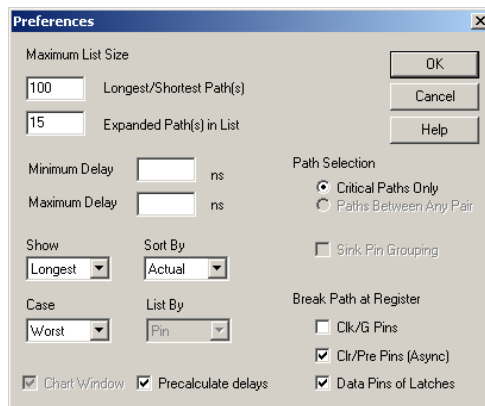

Figure 2-9. Timer Preferences Dialog Box
1. **In the File menu, click *Preferences*.** The Preferences Dialog Box appears, as shown in Figure 2-9.
- 1. In the File menu, click *Preferences*.** The Preferences Dialog Box appears, as shown in Figure 2-9 on page 36.
1. **In the File menu, click *Preferences*.** This displays the Preferences dialog box (see Figure 2-9 on page 36).
1. **In the File menu, click *Preferences*.** The Preferences Dialog Box appears, as shown in Figure 2-9 on page 36.
Normally, Timer displays only critical paths. Critical paths are the longest path between any of the starting points (terminals) and each ending terminal. If you would like to see the timing of all paths between any of the starting terminals and any of the ending terminals, select Paths Between Any Pair in the Path Selection area of the Preferences dialog box, Figure 2-9 on page 36. Selecting Critical Paths causes only the critical paths to be displayed.
By default Timer displays paths that break at all clock, gate, clear, and preset pins. If you would like to display paths that pass through these pins, un-select the appropriate pins in the Break Path at Register options in the Preferences dialog box, as shown in Figure 2-9 on page 36.